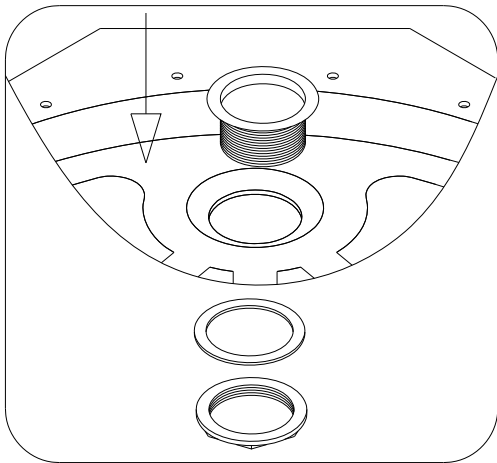

Fig 3
3. Install the drain to the tray according the drain installation manual (supplied by drain manufactory) Fig 3.